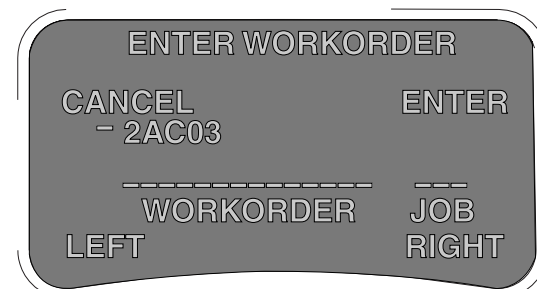

FIG. 15
3. Press the right keypad button to move the cursor to the next character position. Use the arrow keypad buttons to select the character desired. Continue this process until the Work Order is completed. See FIG. 15.